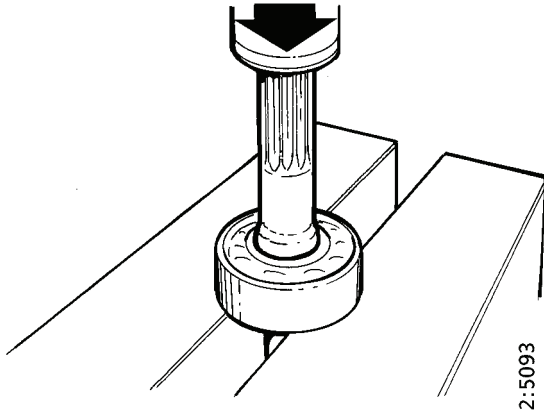

Figure 7-32
1. Place the bearing on parallel pieces in a press so that the inner race is also supported. Press the shaft to the correct position (Figure 7-32) and install the retaining rings.